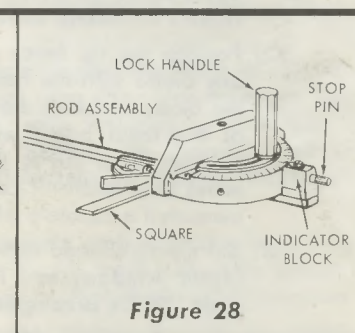

Figure 28
- (1) Loosen the lock handle and push stop pin firmly into the middle detent ("0" position on the scale). The stop pin will be seated more effectively if it is rotated slightly as it is being "pushed" into the detent. Tighten the lock handle firmly hand tight. (See figure 28.)
- (2) Using a combination square, check for an exact 90-degree angle between the miter gauge and rod assembly. If this measurement is exactly 90 degrees, the adjustment has not been disturbed and the gauge is ready for use. If not accurate at 90 degrees, adjust the gauge as follows: